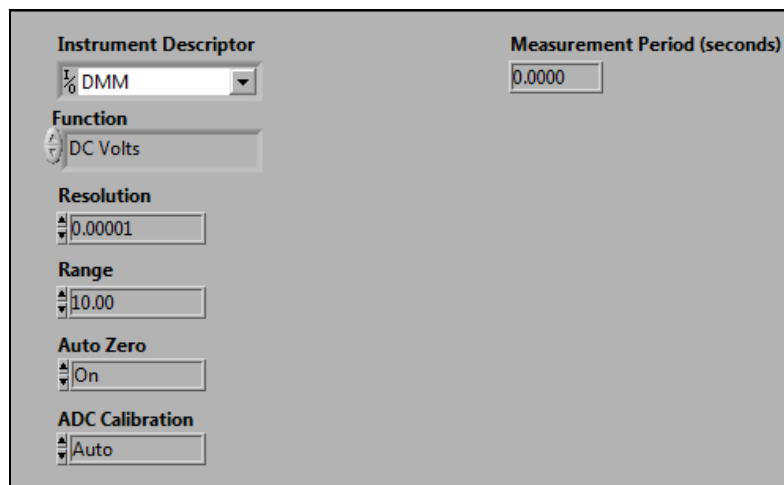

Figure 3-3. Simple Single Point Benchmark VI Front Panel
5. Arrange your front panel to look similar to the one shown in Figure 3-3.